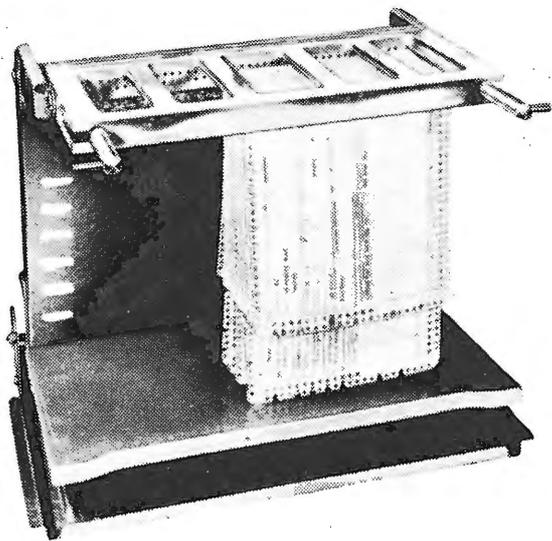

Fig. 3. Typical "key-sort selector" (Royal McBee, 36, Worship Street, London, E.C.2.)
**Mechanical Handling of Cards—Exclusive Sections.**—The idea of sectionalizing the cards is attractive from several points of view, particularly if their number becomes large. For instance, if there are 10,000 cards (and this is the number that we consider may exist in the foreseeable future), it would be convenient to concoct 10 categories such that there were about 1,000 cards per category. When retrieving, the searcher's attention would be directed to a drawer holding one category of cards and the 1,000 cards would be sorted in two packs of about 500—this being a conveniently handled quantity. The operation is quite rapid particularly if a "key-sort selector" (Fig. 3) is used. Such a device is particularly useful if a number of needles are used when sorting.